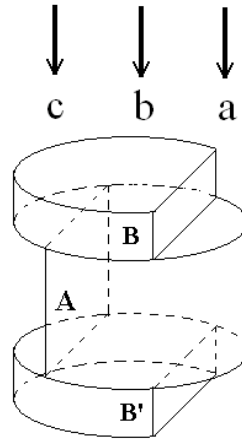

Fig. 5
1.2 a As shown in Fig.5, if a laser light beam strikes approximately normally on the region *a*, *b*, and *c* of the sample respectively, how many main light spots of the reflection light will be observed (need not consider multiple reflections)? Will the profiles of these reflected optical spots be inevitably the same as that of the incident light?